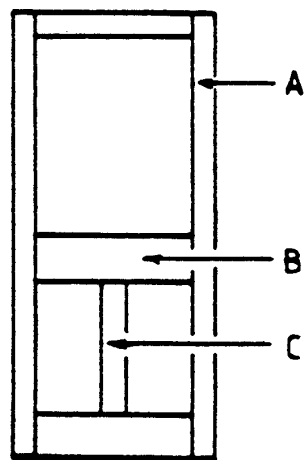

Fig. 12
40. Figure 12 shows the elevation of a panelled door. Name the parts indicated.